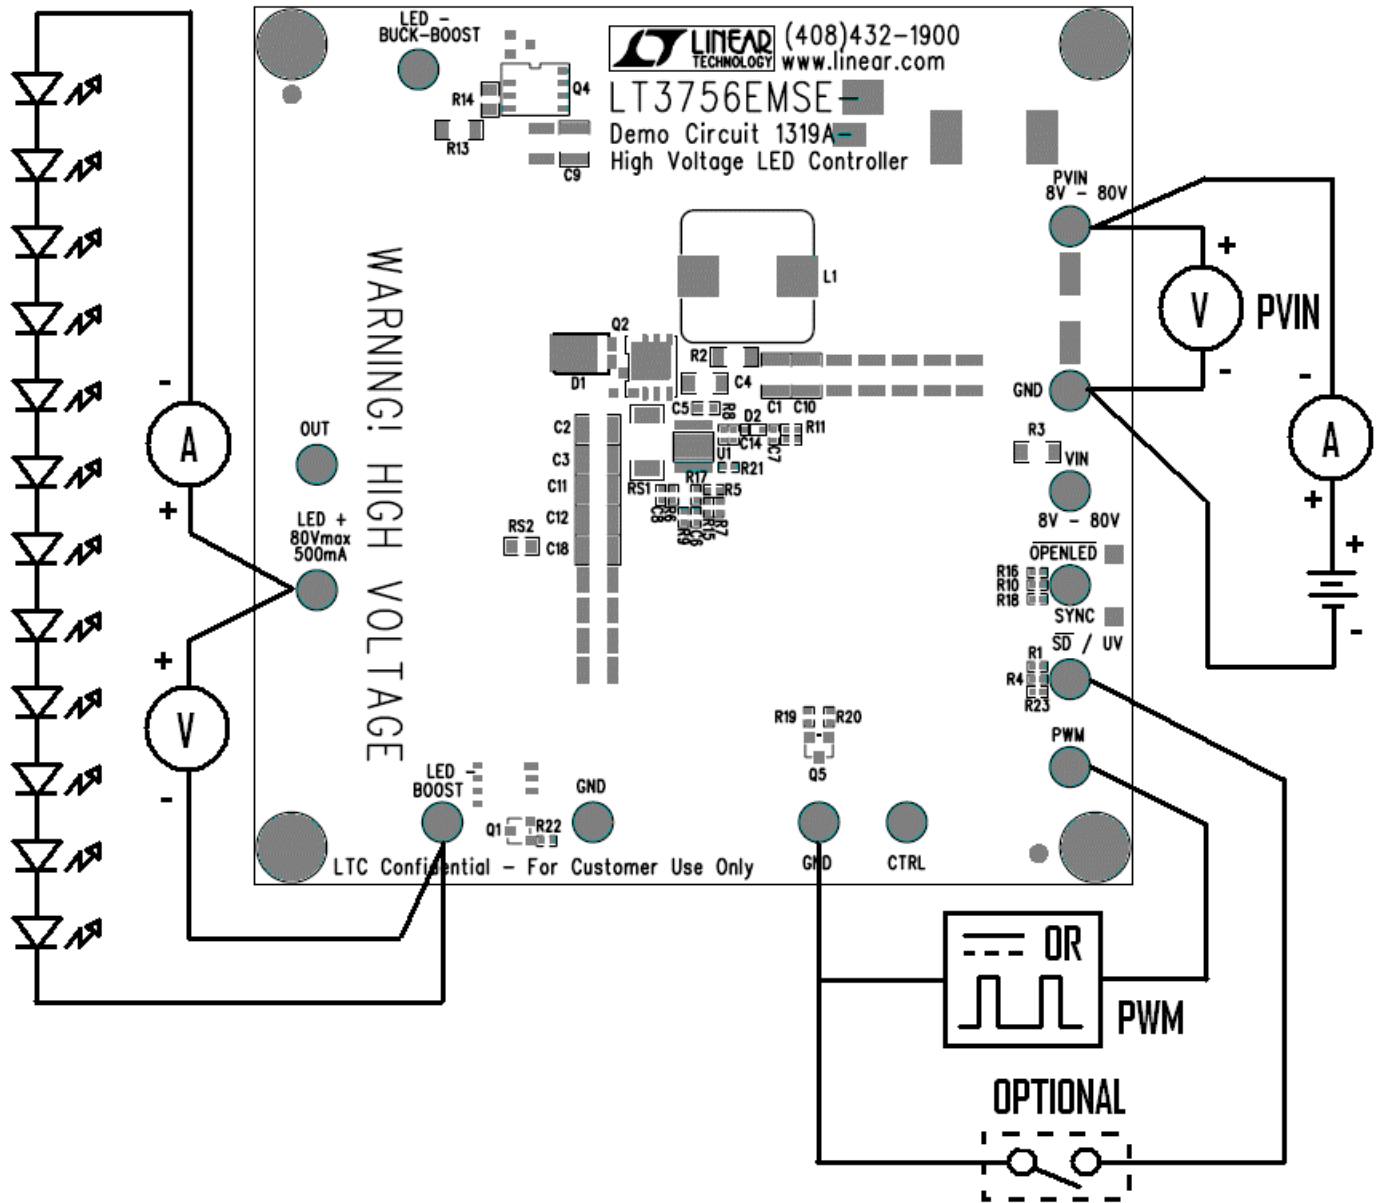

Figure 1. Test procedure setup drawing for DC1319A-A and DC1319A-B
1. Connect a string of LEDs with forward voltage less than 80V, but greater than the PVIN voltage, to the LED+ and LED- (Boost) terminals on the PCB as shown in Figure 1.